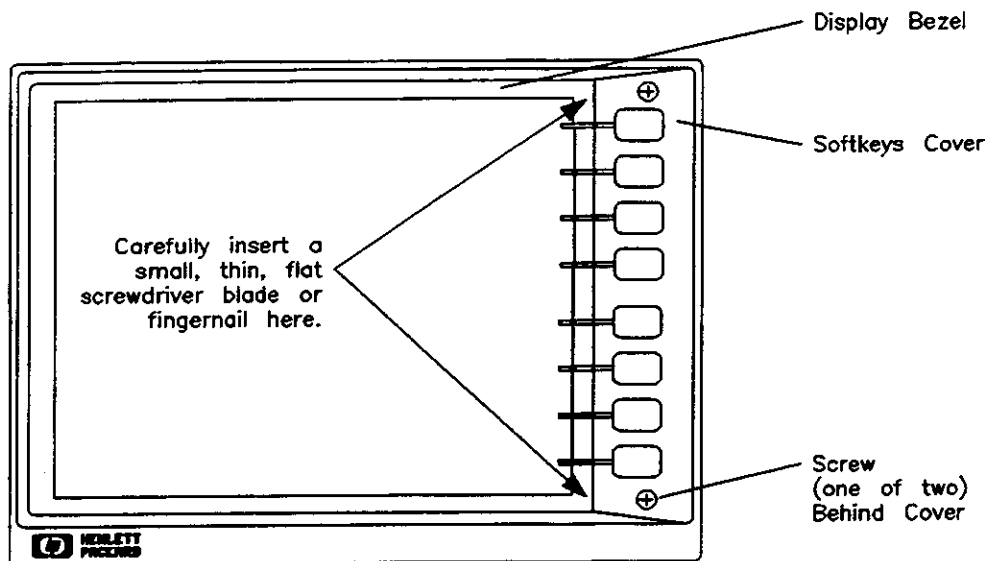

Figure 2-1. Removing the Glass Filter
2. Remove the softkeys cover (a plastic cover through which the front panel softkeys protrude): carefully insert a thin, flat screwdriver blade (or your fingernail) between the upper left corner of the softkeys cover and the glass filter (see Figure 2-1). Be extremely careful not to scratch or break the glass. Carefully pull the cover forward and off.